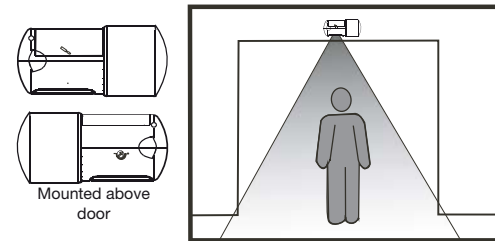

Fig. 5
3. The PIR sensor 44-063 can be fitted above a door. Fig. 5